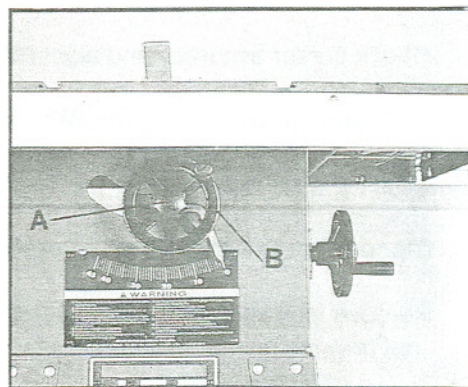

Fig. 29
1. To raise or lower the saw blade, loosen lock knob (A, Fig. 29), and turn handwheel (B, Fig. 29) until desired height is reached. Tighten lock knob. The blade should be adjusted to 1/8" to 1/4" above the top surface of the material being cut.